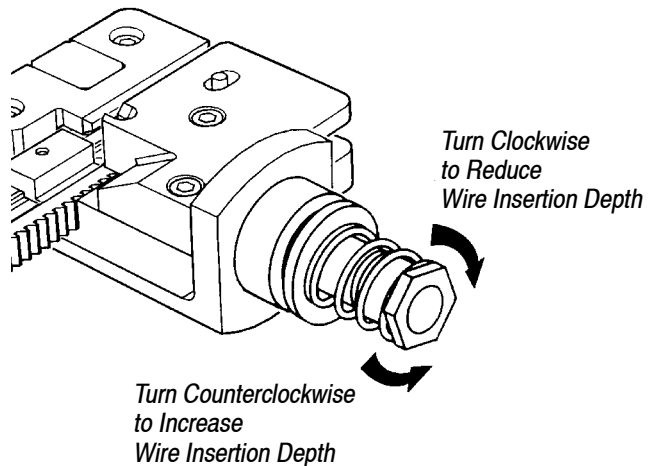

Figure 5
5.1. Wire Insertion Depth (See Figure 5)